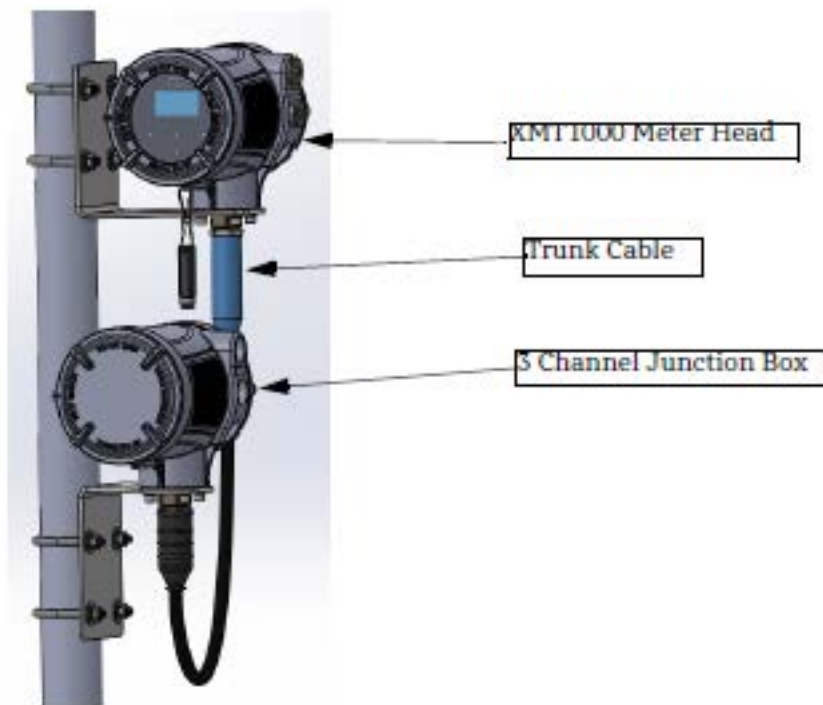

Figure 29: XMT1000 Trunk cable Placement
1. Thread MCX end of 6 conductor cable trunk into XMT1000 meter head and the BNC connector end of the cable into the 3 channel Junction box as seen in *Figure 29*.